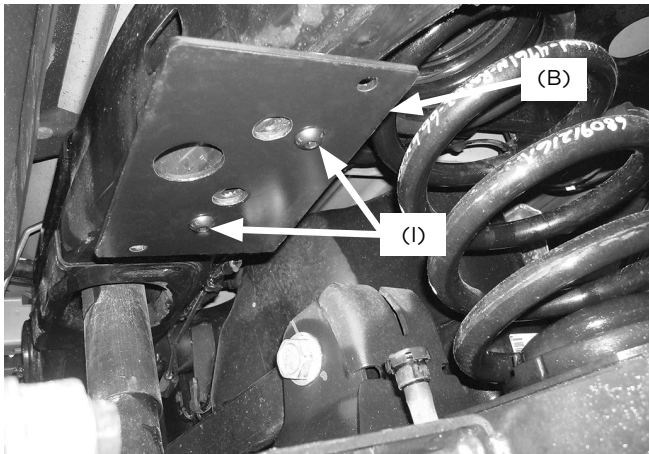

Fig. 8
- Attach the upper frame bracket (B) to the frame (Figs. 8 & 9) using the M10-1.50 x 35 button-head cap screws (I). Torque the mounting hardware to 30 lb.-ft. (41Nm).